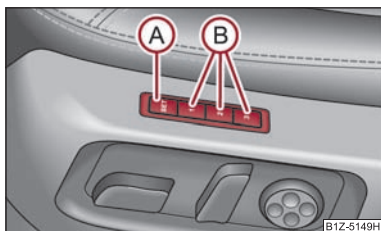

Fig. 57 Driver seat: Memory buttons and SET button
- Press button **SET** (A) ⇒ fig. 57.
- Press one of the memory buttons (B) within 10 seconds after pressing the button **SET** - an acknowledgement signal confirms that the seat setting is stored.
Memory for the seat offers the possibility to store the individual driver seat and external mirror position. An individual position can be allocated to each of the three memory buttons (B) ⇒ fig. 57, that is three in total. After pressing the corresponding memory button (B), the seat and the exterior mirror are automatically moved into the positions which have been allocated to this button ⇒ page 66.
- **One-touch automatic memory:** briefly press the desired memory button (B) ⇒ page 66, fig. 57. The seat and exterior mirror are moved automatically into the stored positions (this applies only if the ignition is switched on and the speed is less than 5 km/h).
- **Memory keying:** Press and hold the desired memory button (B) pressed long enough until the seat and the exterior mirror are moved into the stored positions.